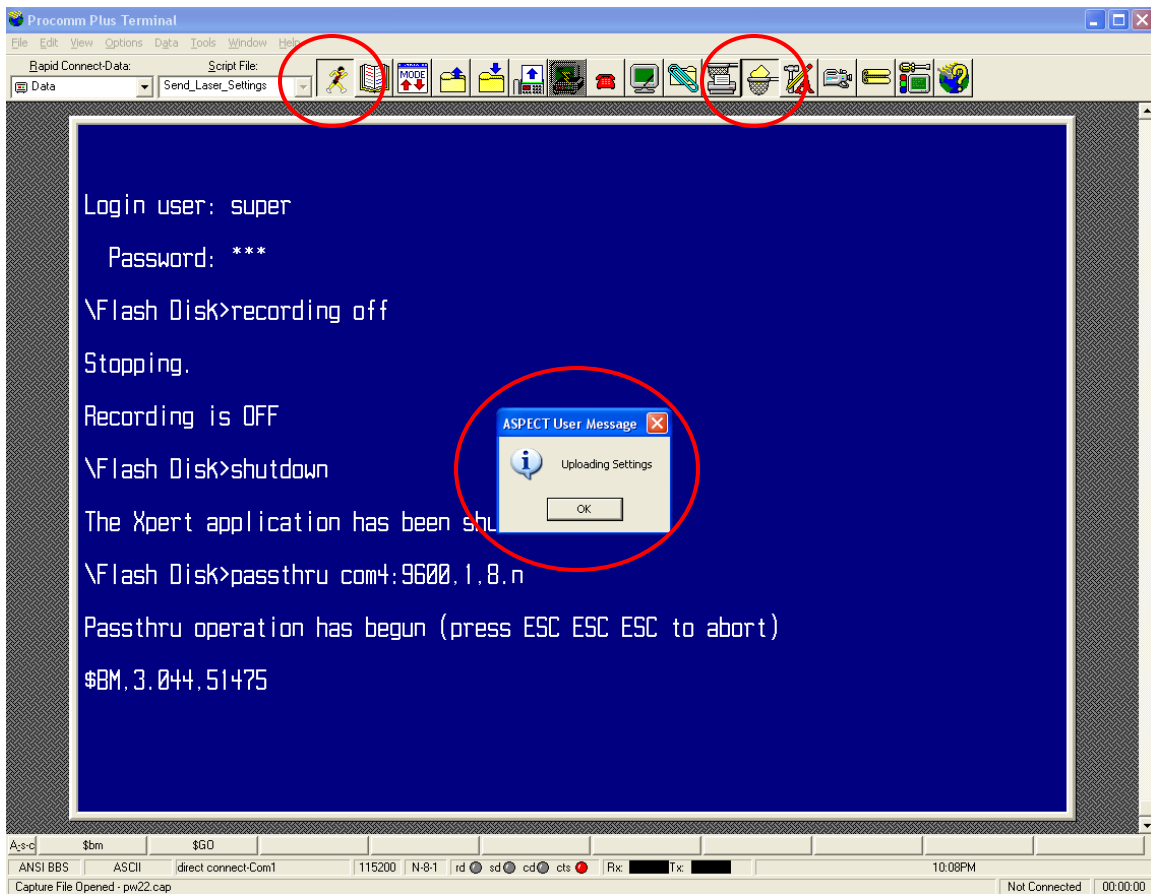

Figure 36
- Using the mouse select the Send_Laser_Settings script from the Script file drop-down menu as shown in fig. 36.
- After you press the **STOP/STOP SCRIPT** button, the “running man” will be indented, as will the **CAPTURE** button. At the lower left of the screen, the **Capture file** status will change from closed to Laser Setting.cap (fig 36).